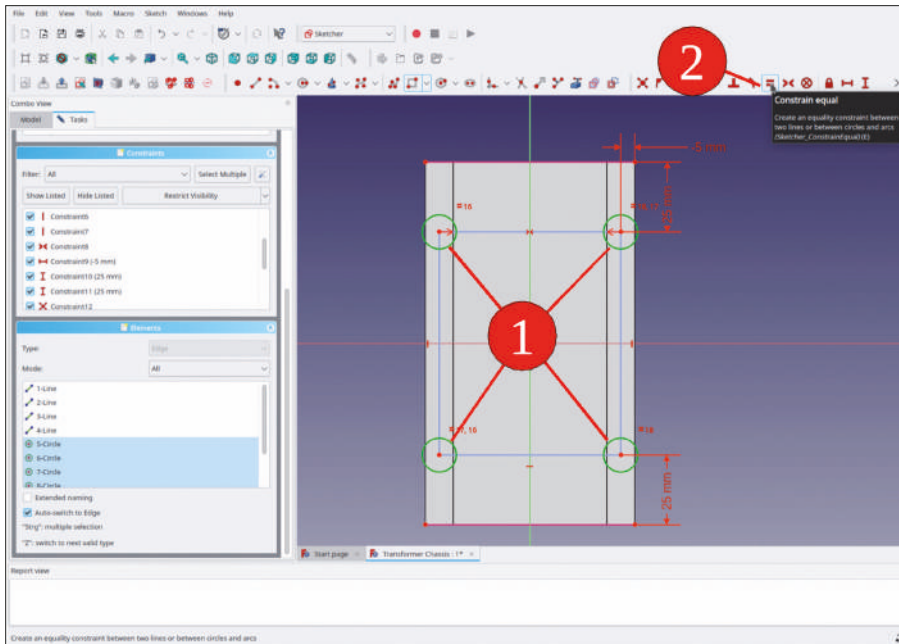

Figure 9-72
9. Draw 4 circles onto the corners of the rectangle. Mark the 4 circles and click the 'Constrain equal' tool button (Figure 9-72).